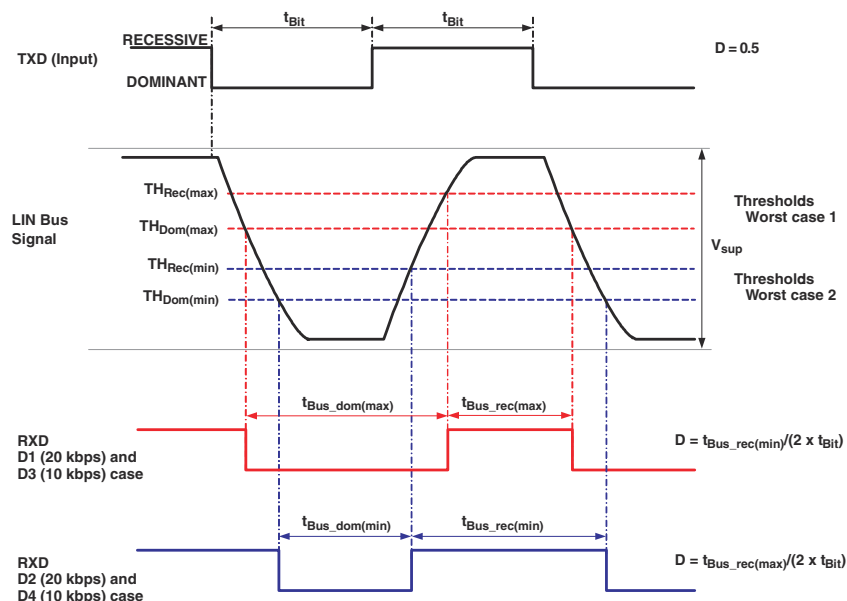

图 7-1. Definition of Bus Timing Parameters
| D1                 | Duty cycle 1 (4)           | TH REC(max) = 0.744 × V SUP , TH DOM(max) = 0.581 × V SUP ,V SUP = 7 V to 18 V,t BIT = 50 μ s (20 kbps),D1 = t Bus_rec(min) / (2 × t BIT ).See 图 7-1   | 0.396                   |                        |                          |      |
| D2                 | Duty cycle 2 (4)           | TH REC(min) = 0.422 × V SUP , TH DOM(min) = 0.284 × V SUP ,V SUP = 7.6 V to 18 V,t BIT = 50 μ s (20 kbps),D2 = t Bus_rec(max) / (2 × t BIT ).See 图 7-1 |                         |                        | 0.581                    |      |
| D3                 | Duty cycle 3 (4)           | TH REC(max) = 0.778 × V SUP , TH DOM(max) = 0.616 × V SUP ,V SUP = 7 V to 18 V,t BIT = 96 μ s (10.4 kbps),D3 = t Bus_rec(min) / (2 × t BIT ).See 图 7-1 | 0.417                   |                        |                          |      |
| D4 Duty cycle 4 (4)  | $TH_{REC(min)} = 0.389 \times V_{SUP}$ , $TH_{DOM(min)} = 0.251 \times V_{SUP}$ ,$V_{SUP} = 7.6\text{ V to }18\text{ V}$ ,$t_{BIT} = 96\text{ }\mu\text{s}$ (10.4 kbps),$D4 = t_{Bus\_rec(max)} / (2 \times t_{BIT})$ .See 图 7-1 |     |                    | 0.59 |               |